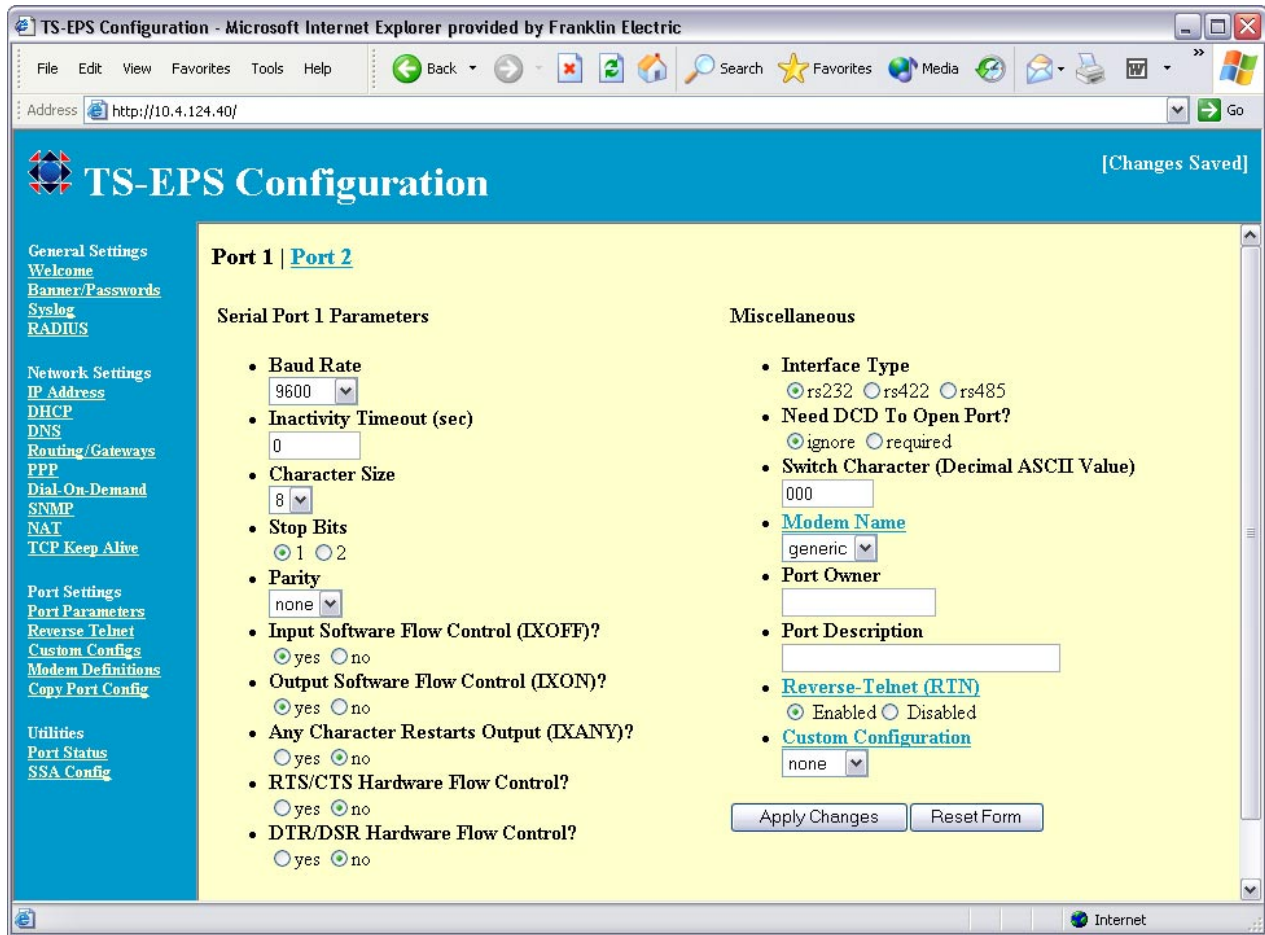

Figure 7 - TS-EPS Configuration Screenshot
- a). Adjust the following settings to match the screen in Figure 7: